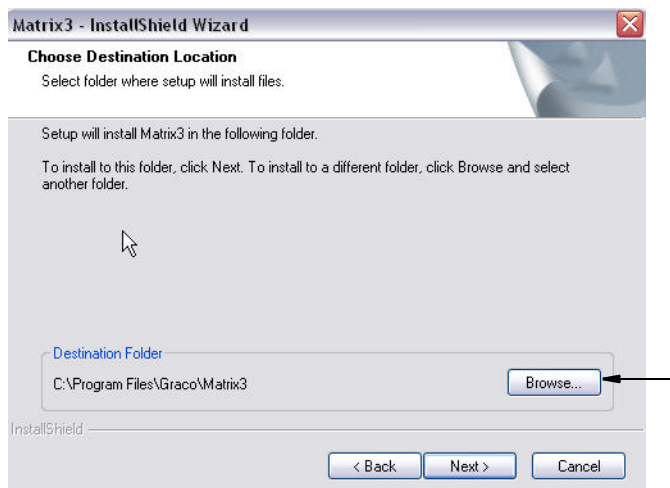

FIG. 6
6. Chose the Destination Location. The default is C:\Program Files\Graco\Matrix3. Click the Browse button, shown in FIG. 6 to select a different location.